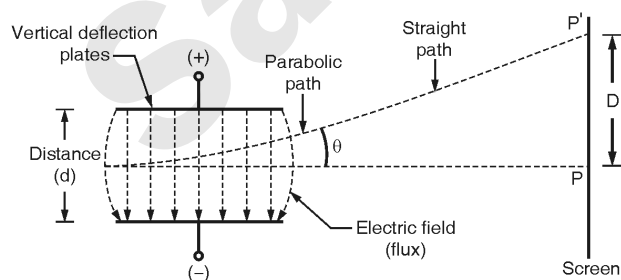

Fig. 1.6.2(a) Electrostatic deflection in CRT
- iii. When the beam enters in this field, it is deflected towards the positive plate. So the path of beam become parabolic. Then the beam comes out of this field in straight line and strikes on the screen at particular point P on the screen shown in Fig.1.6.2(a).